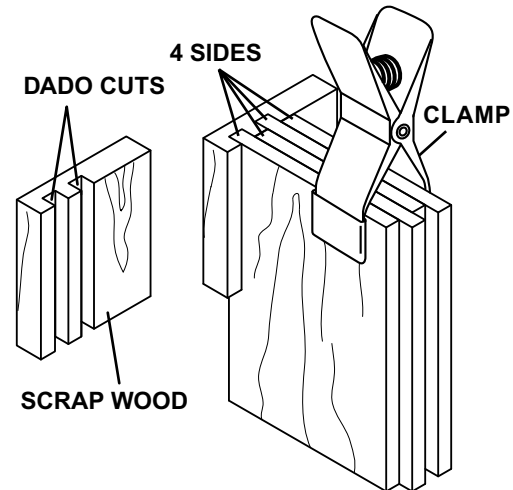

Figure 51
- Place the 4 pieces of wood you will be using for the sides of the box on the piece of wood on which you just made the dado cut: two in the slots and two in the spaces between the slots. This places the offset on each piece exactly in the same location. See Figure 51.